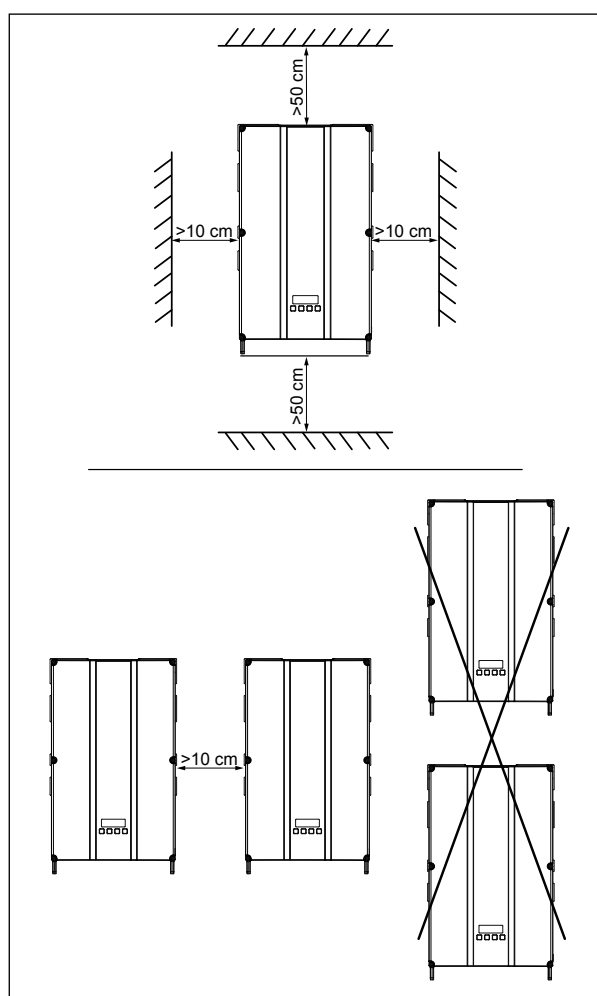

Fig. 7.2: Mounting Clearances for Proper Convection
- Be sure to observe the specified minimum clearances to walls and other solar inverters when installing the device (see Fig. 7.2, p. 25).